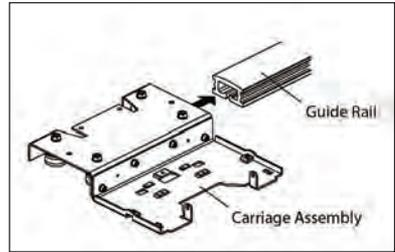

Figure 6
1. Insert the carriage assembly to the guide rail. (See Figure 6)